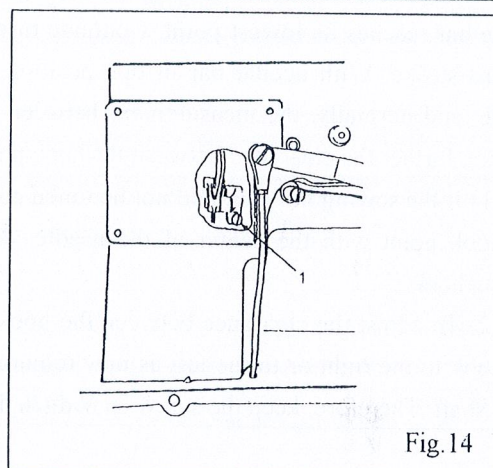
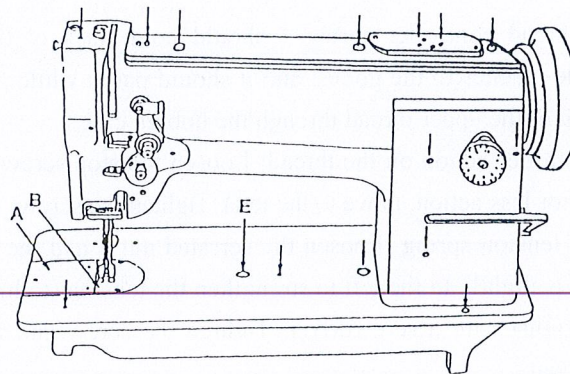

Fig.14
Fig.2
The pressure of the presser feet is adjusted by the screw D (Fig.2) with screwdriver. To increase the pressure, turn the screw to clockwise and to counter-clockwise to decrease it.
- 1) Remove the cover G (Fig.2) and loosen the screw 1 (Fig.14) slightly.
The sewing hook and its mechanism are protected by a safety clutch. If it should become necessary to re-engage the safety clutch, depress button (E, Fig.2) in the bed plate of the machine. At the same time, turn the machine pulley until the locking mechanism re-engages the drive shaft beneath the bed of the machine. Open bed slide plate and rock the machine pulley back and forth to remove any foreign matter may have lodged itself in the hook. Do not use any sharp-edged tools, etc., lest the hook be damaged.
1. Depress the button (E, Fig.2) in the bed plate of the machine with your left hand. At the same time, turn the machine pulley strongly so that the safety clutch disengages.
2. Lay down the machine head toward the other side. Hold the safety clutch [(left) (1) and turn the safety clutch (right) (2) until you can see the screw (4) through the hole (3)]
3. To strengthen the tension of spring (5), turn the screw (4) to the right, while to lighten the tension, turn the screw to the left.
4. Upon completion of adjustment, depress the button (E, Fig.2). At the same time, turn the machine pulley until the safety clutch re-engages.